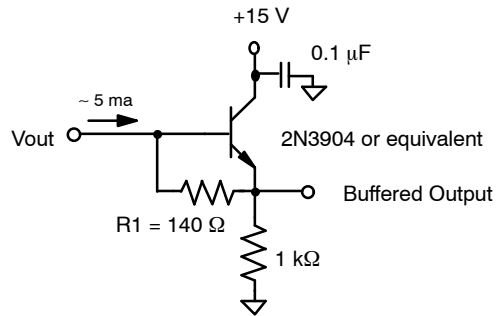

Figure 3. Output Structure Load Diagram
Charge presented to the floating diffusion (FD) is converted into a voltage and current amplified in order to drive off-chip loads. The resulting voltage change seen at the output is linearly related to the amount of charge placed on FD. Once the signal has been sampled by the system electronics, the reset gate (ϕ_R) is clocked to remove the signal and FD is reset to the potential applied by VRD. More signal at the floating diffusion reduces the voltage seen at the output pin. In order to activate the output structure, an off-chip load must be added to the Vout pin of the device. See Figure 3.